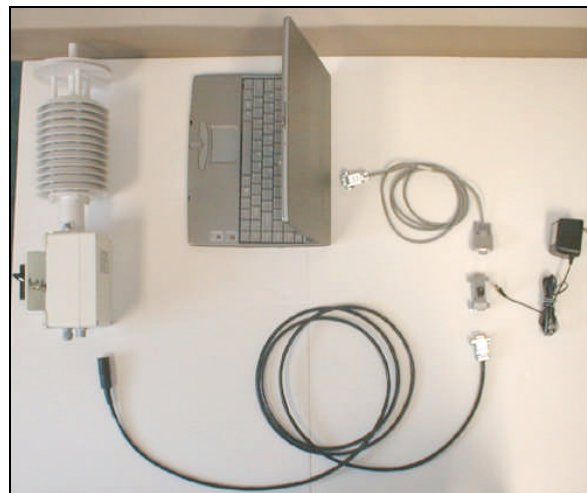

Figure 16. MET to PC Connection
- k. As mentioned before, as opposed to some other GPS receivers (e.g. Thales), Trimble NetRS does not provide power to the MET station. You need the power breakout/supply kit available from Paroscientific (See Table 2). Connect the MET cable to the power breakout adapter and connect and secure the adapter to **Port 2** or **Port 4** on the back panel of the GPS receiver as shown in Figure 10. When you connect the MET cable to the power adapter and supply power, the MET station power LED (red) should turn on as in Figure 11. The MET station connection to the power breakout adapter and the GPS receiver will be the same as the PC connection as in Figure 16 except the connection will be made to the NetRS instead of a PC.
- a. Connect the MET station to a laptop computer via the MET station interface cable and the power breakout as in Figure 16. Since PC's are not equipped to power up a MET station, a power breakout must be used. The power breakout must be connected to the PC's serial port and plugged into the MET station RS-232 cable. If your MET station has LEDs, you should see the red power light ON. The power for the MET unit is +7 to 16 VDC.